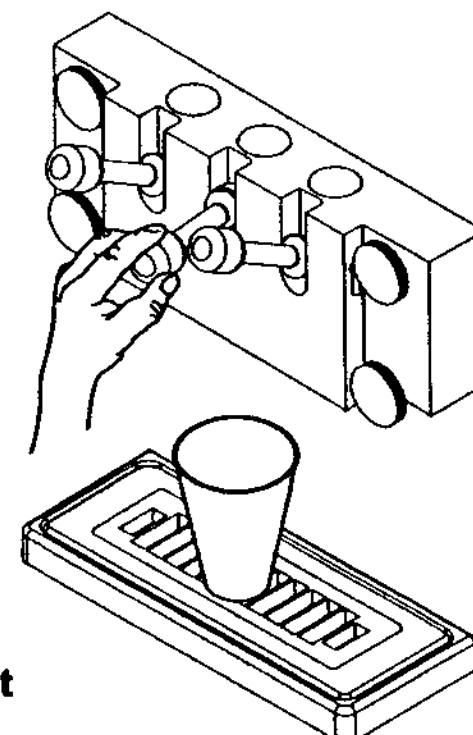

Fig. 27
2. Open the spigot plungers to purge the system of sanitizing solution (Fig. 27). Using approximately one half to one gallon of product, chase the sanitizing solution from each mix pan by pouring behind any remaining solution which will then drain through the machine. Doing so will make certain that sanitizing solution will not remain in the machine to freeze or to be served to the customer.